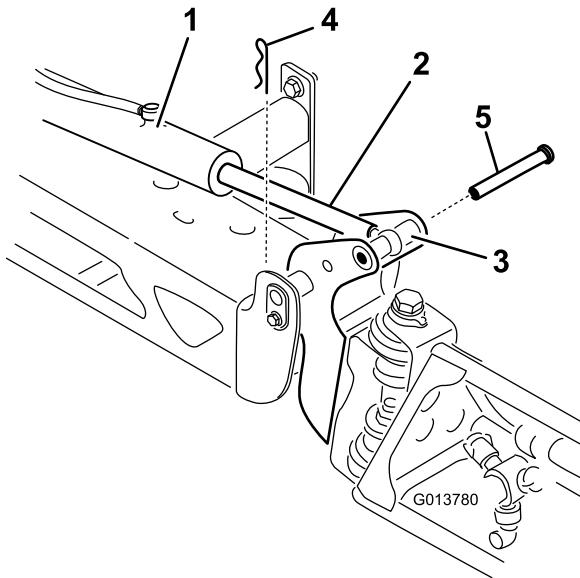

Figure 108
7. While supporting the spray section, insert the clevis pin through both boom pivot and actuator rod (Figure 108).